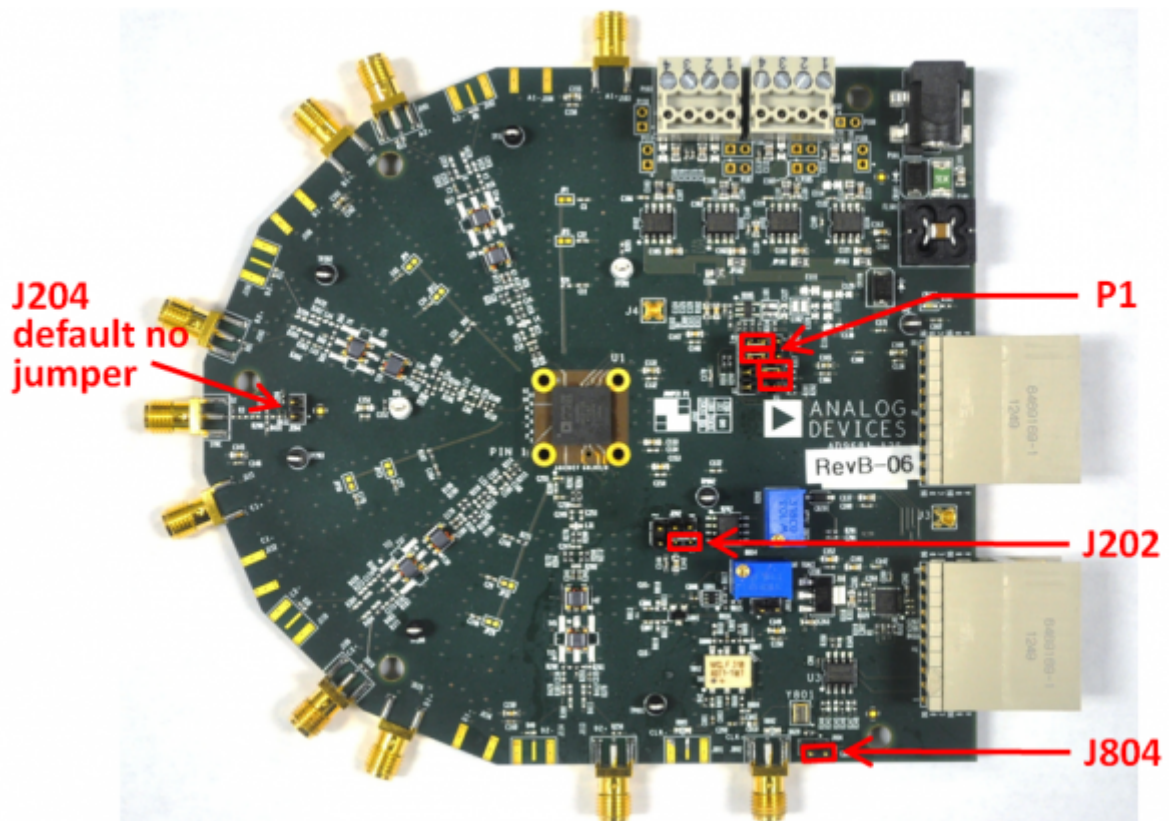

Figure 2. Default Jumper Connections for AD9681-125EBZ Board
2. On the ADC evaluation board, confirm that the jumpers are installed as shown in Figure 2.
Set the jumper settings/link options on the evaluation board for the required operating modes before powering on the board. The functions of the jumpers are described in Table 1. Figure 2 shows the default jumper settings.
J202	This jumper selects between internal V_{REF} and external V_{REF}. To choose the ADC's internal 1V reference, connect Pin 3 (DUT_SENSE) to Pin 5 (GND) as shown in Figure 2. To use the on-board AD822 buffered reference, connect Pin 2 (DUT_SENSE) to Pin 1 (AVDD), and connect Pin 4 (DUT_VREF) to Pin 6 (EXT_REF). Adjust external VREF to be 1.0V using potentiometer R202. To apply a reference voltage from an external off-board source, connect Pin 2 (DUT_SENSE) to Pin 1 (AVDD) and apply the reference voltage to Pin 4 (DUT_VREF). The AD9681 reference voltage is specified to be 1.0 V.